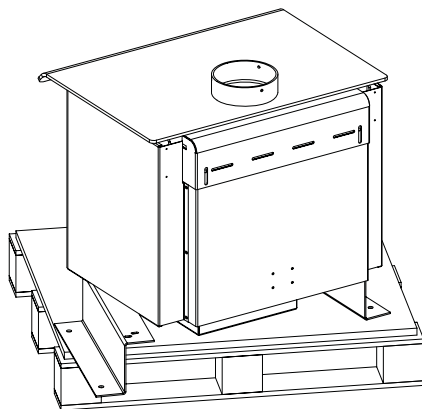

Figure 3
- 5) Swing hold down bracket out from stove just far enough to install rear leg. *Figure 3*